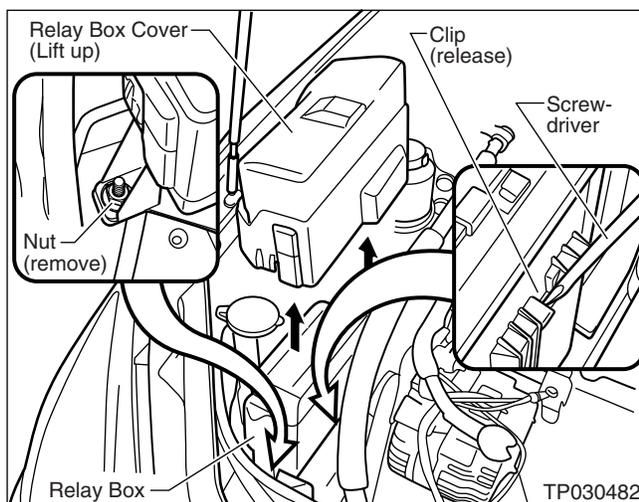

Figure E5
4. **This Step For Altima ONLY:** Re-position (lift up about an inch) the Relay Box to allow enough clearance for removing the Lower Alternator Mounting Bolt. See Figure E5.
- Remove one nut at the lower front of the Relay Box (see Figure E5).
- Use a flat-blade screwdriver to release the Clip on the side (facing the Alternator) of the Relay Box (see Figure E5).